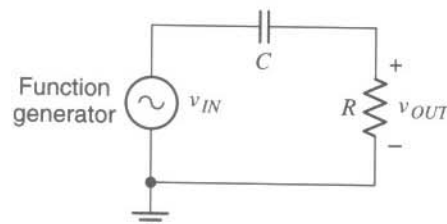

Fig. 5
Consider now the circuit of Fig. 5. Here the output is taken *across the resistor*. As before, at very low frequencies the capacitor will "act almost as an open circuit," which will virtually disconnect the output from the input. The output voltage can thus be expected to be very small at very low frequencies. At high frequencies, on the other hand, the capacitor will act almost as a short circuit, i.e. almost as if it were replaced by a direct connection from input to output, in which case the output voltage would be equal to the input voltage. Thus, for the circuit of Fig. 5, high-frequency input signals pass to the output, whereas low-frequency signals are rejected; for this reason, this circuit is said to be a *high-pass filter*. The voltage gain magnitude  $G$  can be defined again as above. When the frequency of the input is equal to  $f_c$ , where  $f_c = 1/(2\pi RC)$ ,  $G$  takes the value of  $1/(\sqrt{2}) \approx 0.707$ , just as in the case of the low-pass filter. The quantity  $f_c$  is again called the cutoff frequency of the filter. At this frequency, the output leads the input by  $+45$  degrees.
9. Now build the high-pass filter of Fig. 5. Use  $R = 16 \text{ k}\Omega$  and  $C = 10 \text{ nF}$  as before. Vary the frequency of the input signal over a wide range. Observe qualitatively the amplitude of the output. Is your observation what you expected, and does it justify the name “high-pass filter”?